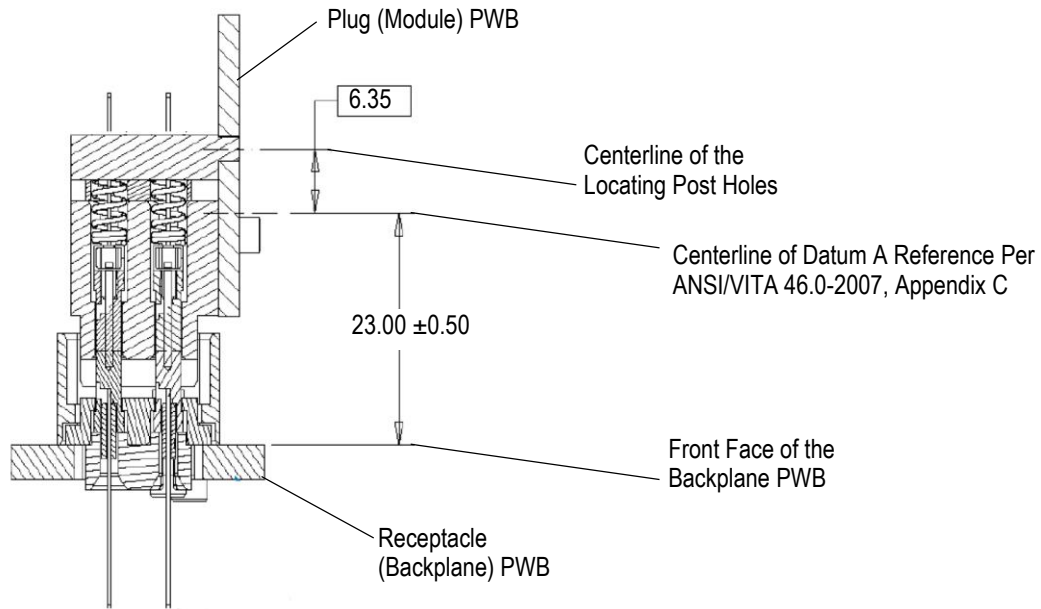

Figure 15
A. Mating Dimension/Range of Engagement (Figure 15)
To ensure proper optical coupling between the mating MT ferrules, the following distances must be within the limits specified in Figure 15: